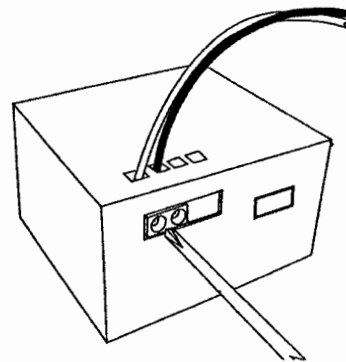

Fig. 5 Inserting thermostat wire in transmitter.
**Step 5:** Insert the low voltage wire into the back of the transmitter securing each wire into separate tabs and tightening the screws to hold each wire. **NOTE:** Wires are not polarity sensitive. Gently tug the wires to ensure they are secure. See fig. 5.